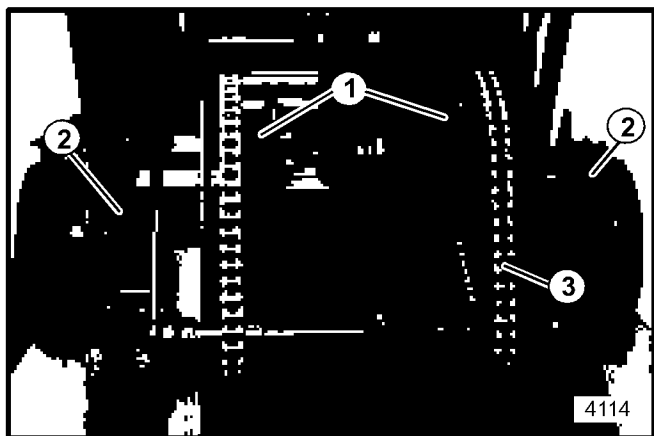

FIGURE 14
8. Time the aerator by positioning the inner two crank arms level and to the back of the unit (the outer two crank arms will be level and to the front). See FIGURE 14.